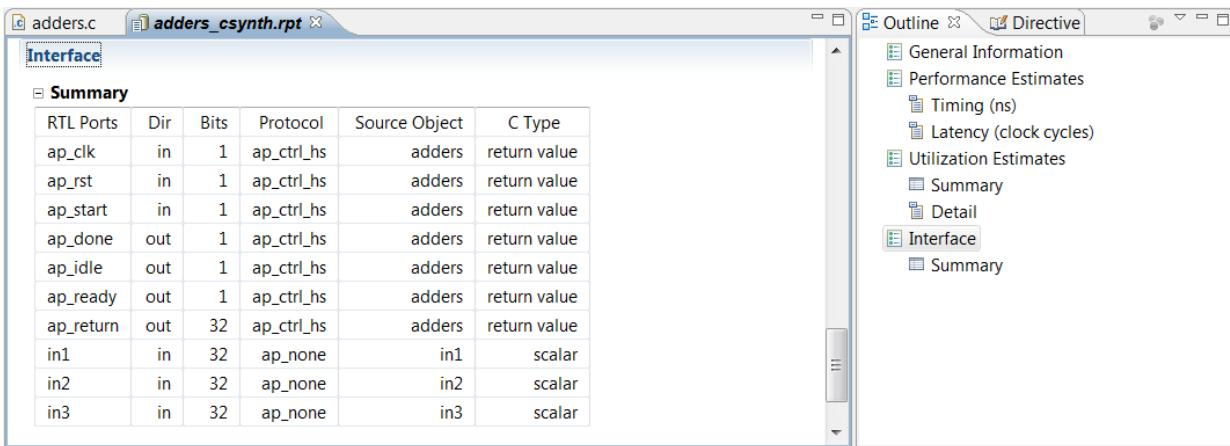

Figure 4-5: Interface Summary
The Interface summary and Outline tab are shown in Figure 4-5.
- Input ports `In1`, `In2`, and `In3` are 32-bit inputs and have the I/O protocol `ap_none` (as specified by the directives in Figure 4-5).